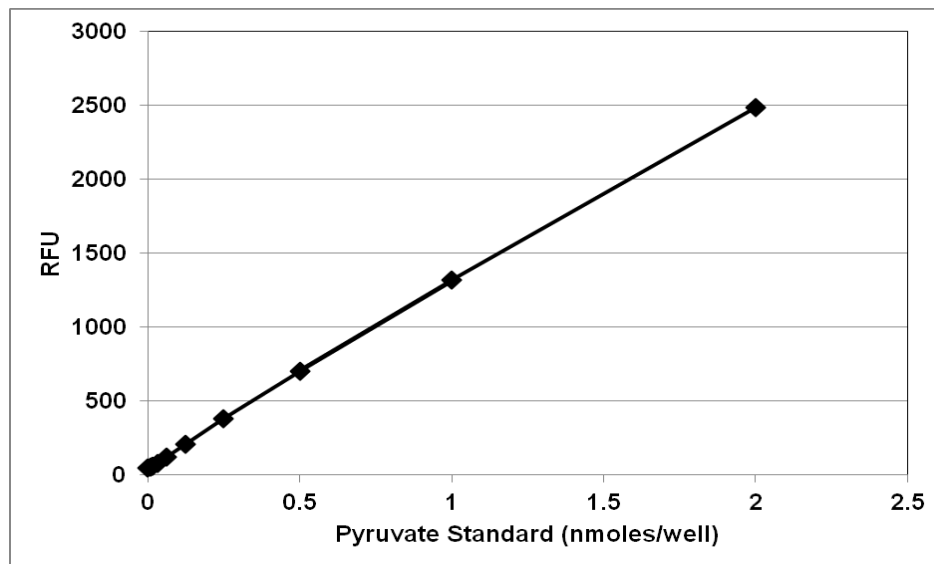

Figure 2: Example Pyruvate Standard Curve.
2. Graph the standard curve with the corrected fluorescence values (see Figure 2 for an example standard curve).